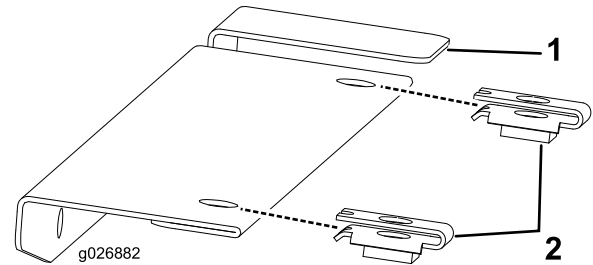

Figure 18
3. Install 2 retainer nuts onto the left cover (Figure 18).